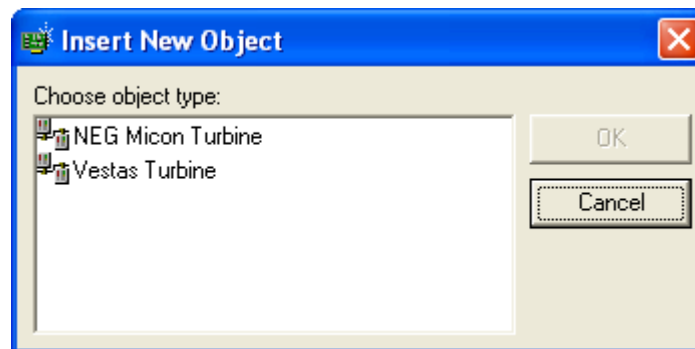

Figure 14 - Insert New Object Window
Note: You can also create an NEG Micon turbine exactly the same way as you would a Vestas turbine. The difference being you would select **NEG Micon Turbine** rather than **Vestas Turbine**, from the applicable **Insert New Object** window (Figure 14), and the **Create New** window would be labelled **Create New NEG Micon Turbine** instead of **Create New Vestas Turbine**.
- The **Insert New Object** window (Figure 14) appears.